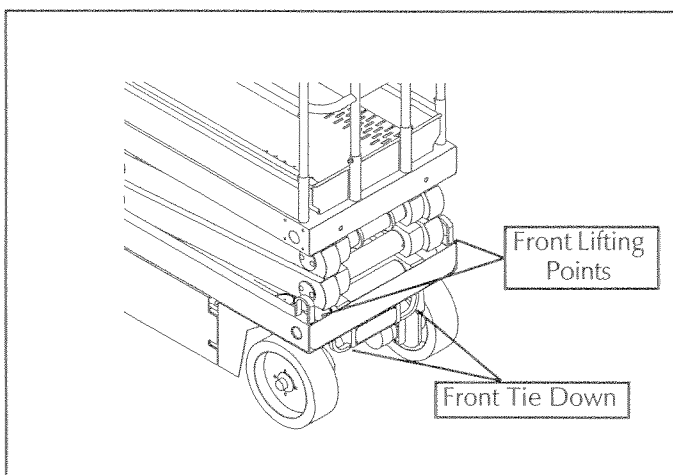

Figure 2-2: Transporting machine
1. Secure straps to Chassis Lifting Lugs only (Figure 2-2 & 2-3).
2. Secure the work platform to the transport vehicle with chains or straps of adequate load capacity attached to the chassis tie down lugs (Figure 2-2 & 2-3).